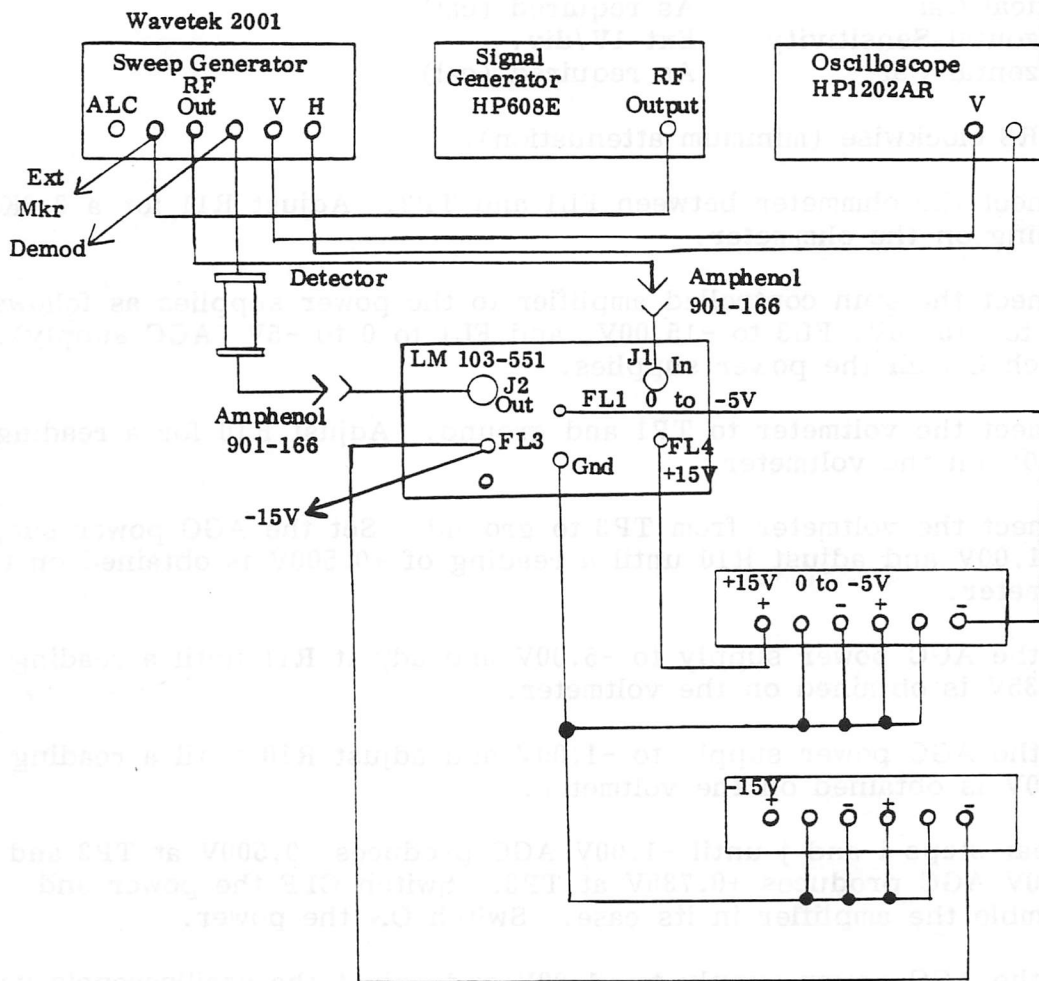

Figure 5-1. A6, Alignment Test Setup
- b. Connect the test equipment as shown in figure 5-1.